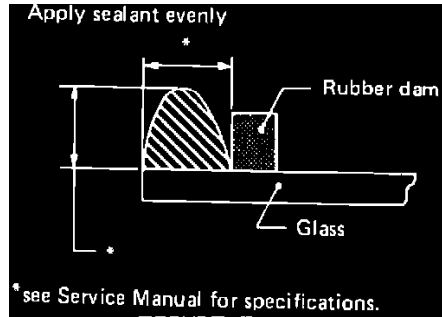

FIGURE 7
8. As the tape rolls up to the "D" ring, center and smooth the tape around the back side of the "D" ring. Press the bubbles and wrinkles out with your fingers (see Figure 7).
9. Cut the urethane applicator tip at an angle. Only about 1/3 of the tip head should be cut away to allow for proper sealant distribution. Apply a bead of adhesive around the perimeter of the windshield (Figure 7).